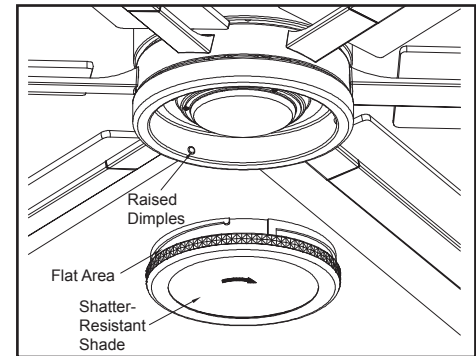

Figure 16
5. Place the shatter-resistant shade into the light kit pan, aligning the three flat areas on the top of the shatter-resistant shade with the three raised dimples in the light kit pan. Turn the shatter-resistant shade clockwise until it stops. (Figure 16)